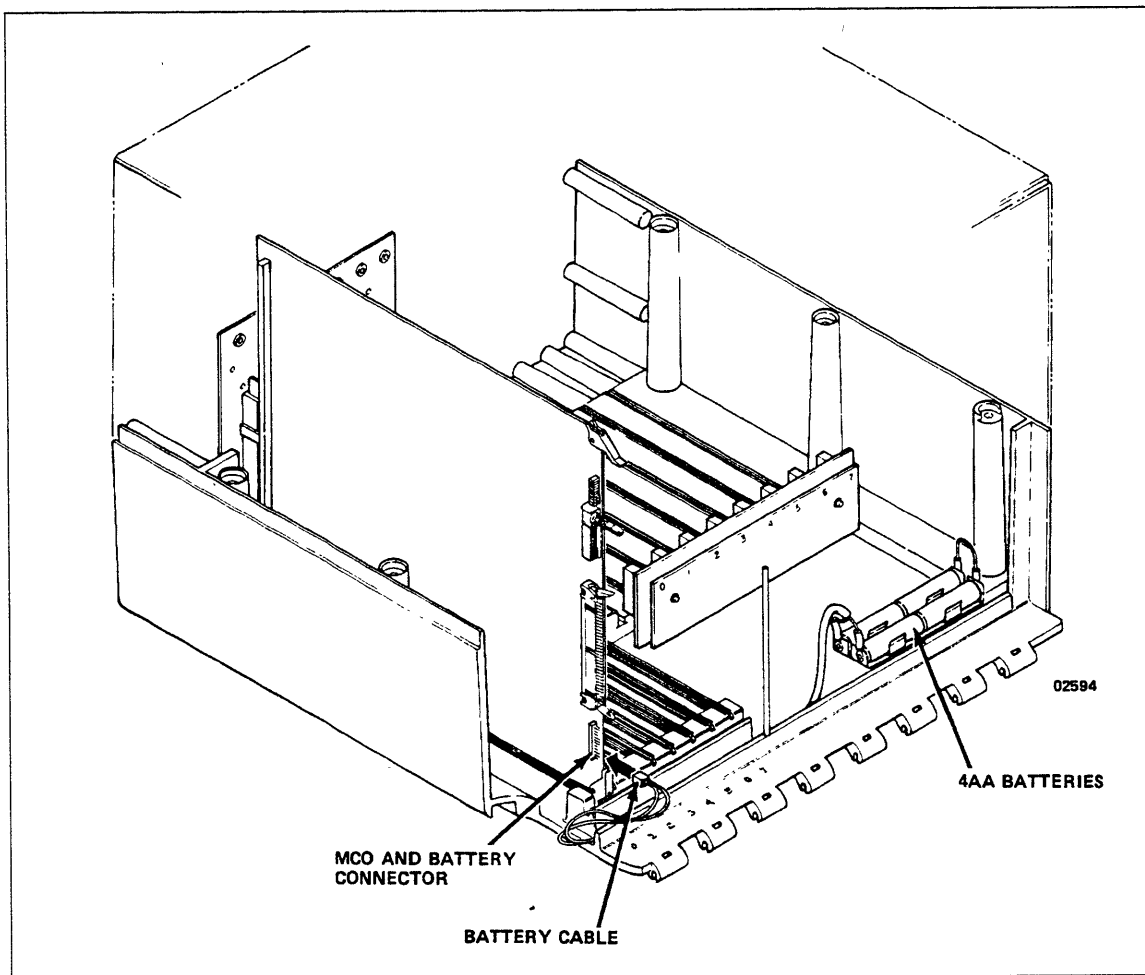

Figure 3-16. Connecting the MCO and Battery Cables
4. Refer to figure 3-16 and route the battery cable behind the vertical support rod and to the left side of the cabinet.
5. Connect the battery cable to bottom pins of connector on the lower front edge of the MPB (figure 3-16). The connectors are keyed to prevent improper installation. The MCO plugs onto the top pins, but do not connect it yet.